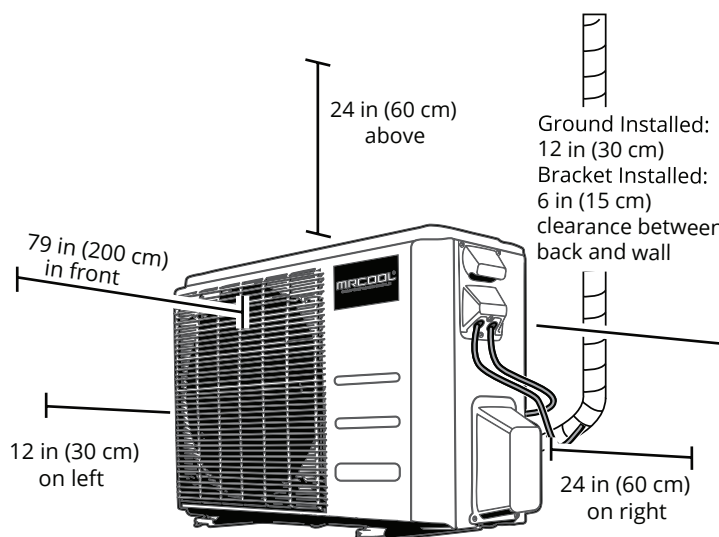

Fig. 4.1
- ✓ Meets all spatial requirements shown in Installation Space Requirements (**Fig. 4.1**)